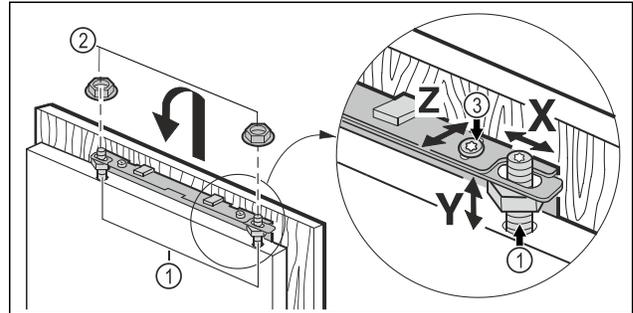

Fig. 44
- ▶ Hang the unit door on the adjustment bolts Fig. 44 (1) and screw the lock nuts Fig. 44 (2) loosely onto the adjustment bolts.
- ▶ Align the height Y and lateral inclination of the unit door: Set the adjustment bolts Fig. 44 (1) with a screwdriver.
- ▶ Tighten the lock nuts Fig. 44 (3).